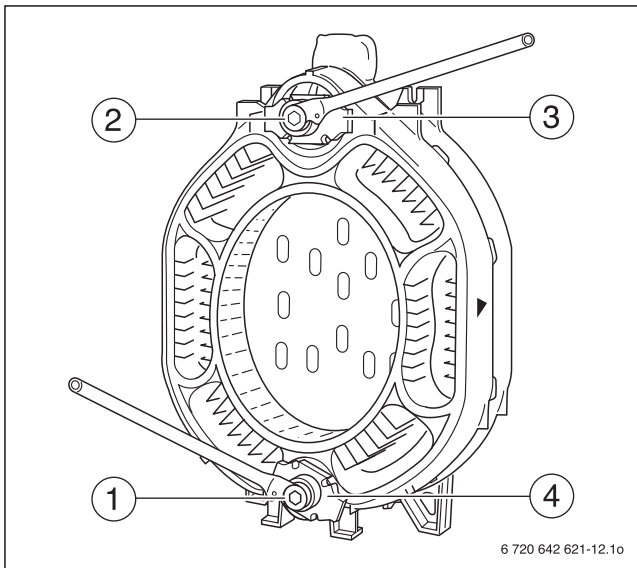

Fig. 20 Using the boiler assembly tool
Use a size 2.2 or 2.3 boiler assembly tool (→ Fig. 4, Fig. 5 and Fig. 20 [1 and 2]).
- ▶ Push pressure flanges (→ Fig. 20, [3]) with clamping nuts onto the tie rods (→ Fig. 4, page 11 and Fig. 5, [4]).